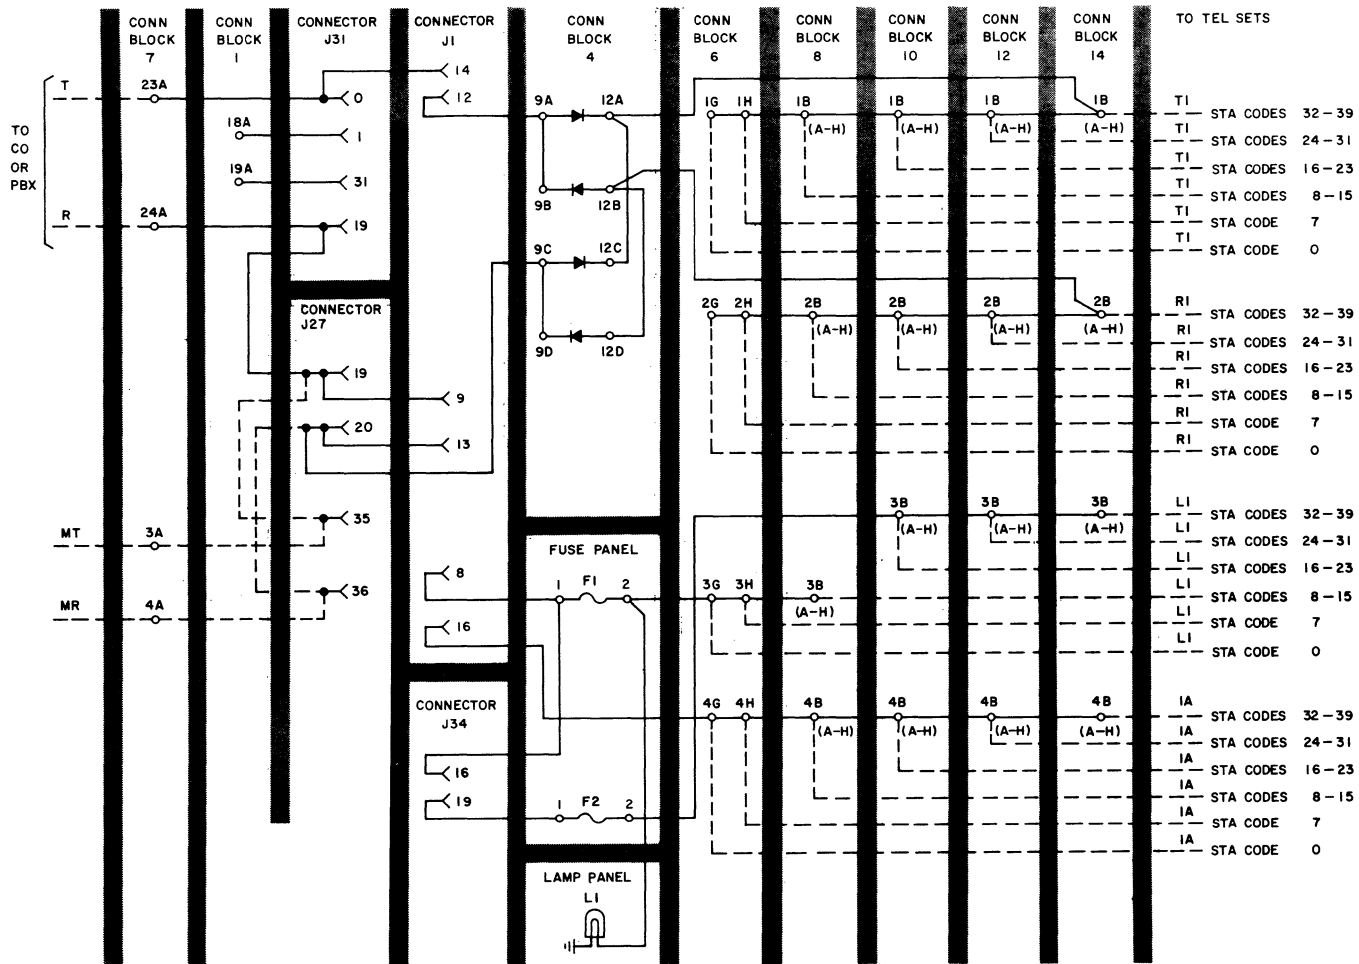

Fig. 45—CO/PBX Line Circuit 1—580A KSU
6.16 Tables X, Y, and Z are provided as an aid for maintenance of the lamp driver circuit. Refer to Fig. 45 through 72 (connector pin 8 of connectors 1 through 14) for further illustration of lamp circuitry.